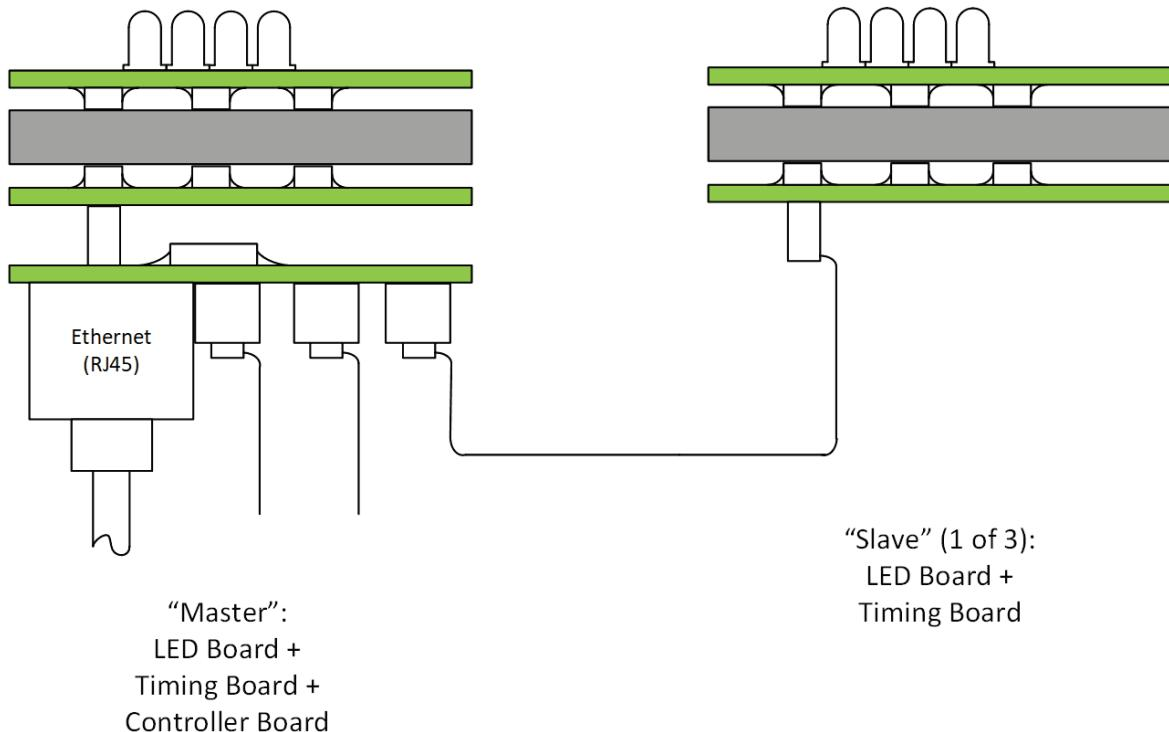

Figure 4: LED, Timing and Controller Boards (Master and Slave)
- Distributes power, configuration information and trigger signals to up to four timing boards (three being 'slaves' connected via ribbon cable – see Figure 4)